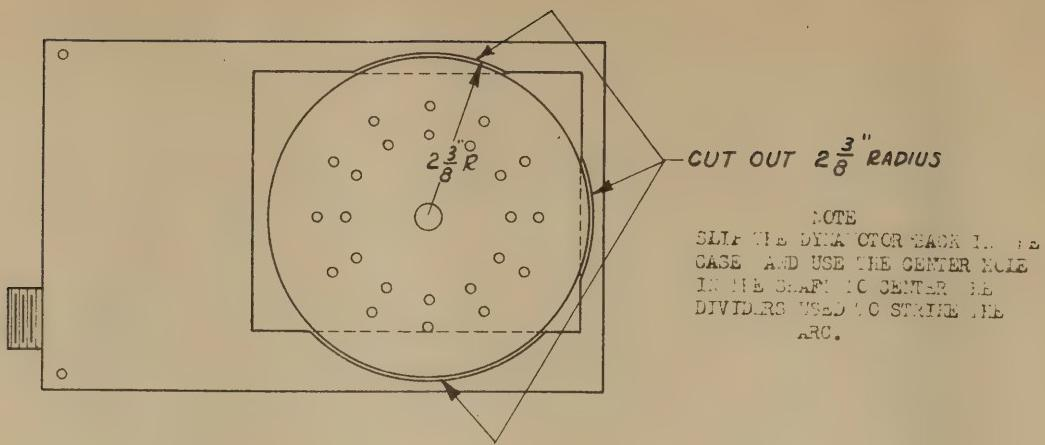

FIGURE 2 A 522
7. As the dynamotor will be placed back in the chassis in a reversed position to allow the shaft end to protrude, the case must be altered slightly to allow for this. Assume that the right hand end of the chassis is when viewed facing the unit with both plugs toward you, with a pair of tin snips cut out the steel mesh screen in the chassis cover on the right hand side also the bottom and back side supports for the screen. Now a small curved section in the top, bottom and back of the right hand end must be removed to allow room for the dynamotor end bell cover to protrude. We do this the easy way by placing the dynamotor in the chassis with the shaft flush with the right end then inscribe with a divider compass a  $2\frac{1}{4}$ " radius and cut out the sections of arc that were within the radius. **Figure 2** gives the idea.